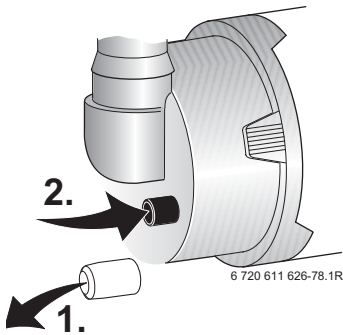

Bild 46
- ▶ Unscrew the two fixing screws and carefully remove the electrode assembly. Refer to fig. 46.